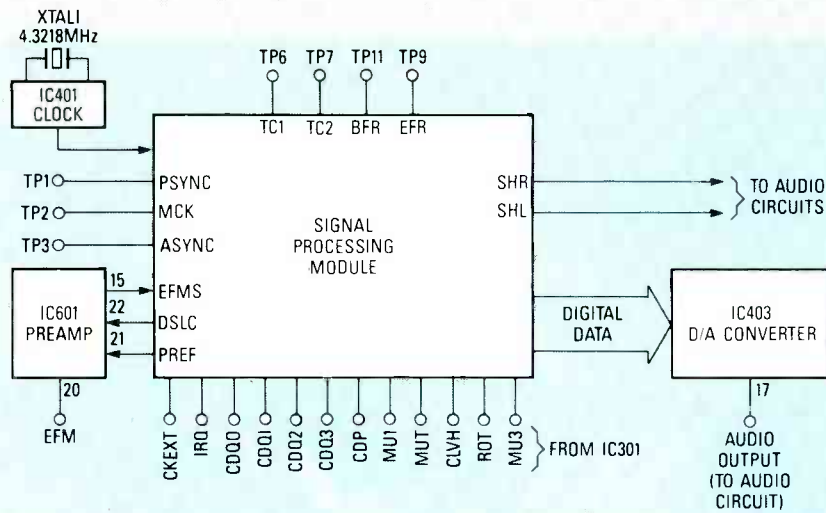

FIG. 32—A FAULTY signal-processing module can cause a variety of audio and motor-control problems.
7. Signal processing circuit problems. Figure 32 is the troubleshooting diagram. A failure in signal processing can cause a variety of failure symptoms in both audio and disc-motor control circuits. Likewise, a failure in system control can appear as a failure in signal processing. From a practical standpoint, there is no sure-fire way to tell if the problem is in signal-processing, system-control, disc-motor, or audio signals. However, there are checks that will help pin down the problem.
Next, if there are excessive audio dropouts, and the front-panel indications are not normal, the problem is likely in signal processing. Check all of the waveforms to and from the signal processing circuits shown in the service literature. Pay particular attention to the following (using Fig. 32 as a guide).
Check all signals (ROT, CLVH, etc.) between IC301 and the signal-processing module as shown in Fig. 32. It is not practical to analyze the waveforms of those signals. However, if you can view a data stream on each line with a scope, it is reasonable to assume that the signal is correct. If one or more of those signals is missing, suspect IC301, the signal-processing module, or both. Remember that a signal from IC301 can depend on a signal from the signal-processing module, and vice versa. So you may have to replace both the IC and the module to find the problem. Also remember that IC301 may not produce the required signals unless FOK, TOK, etc., are applied to it.